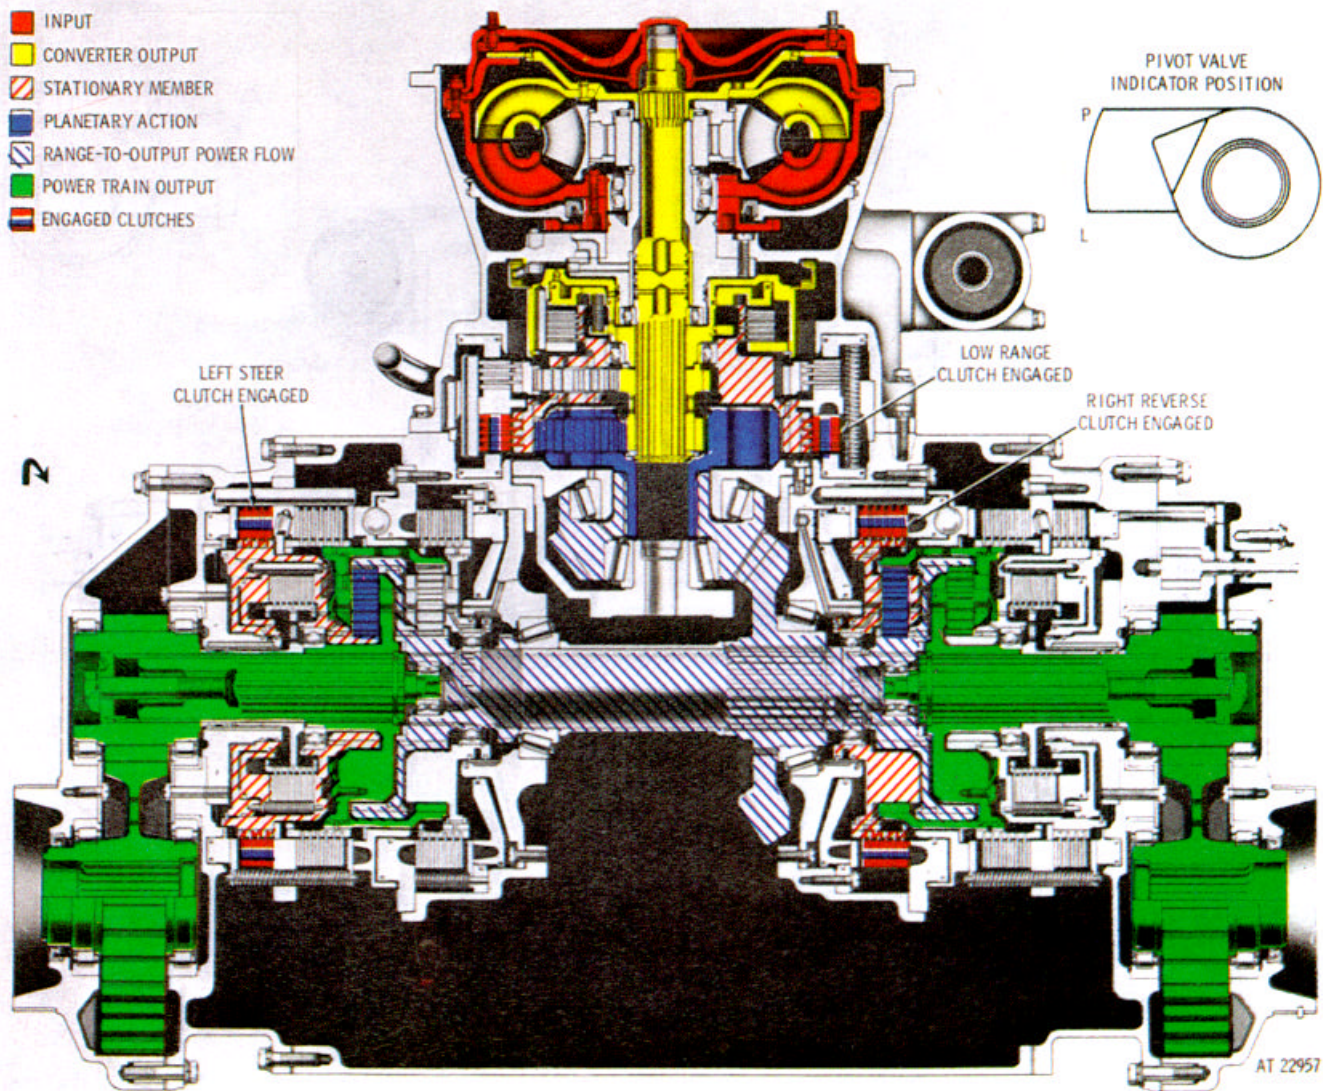

Figure 2-31. Reverse-1 gear, pivot left steer operation-torque path
(1) In fourth gear, even though the steer valve is set for pivot steer, the steer system automatically reverts to normal geared-steer operation. Thus, fourth gear, pivot steer is identical with fourth gear, normal steer. The power flow in the range and right output sections is the same as that described in paragraph 2-50d. However, in the left output section, the steer clutch is engaged. The power flow in the left output section is therefore, the same as that described in paragraph 2-50a (3).
(2) In fourth gear, pivot left steer, the left output rotates slower than the right output, causing the vehicle to steer toward the left. Lesser application of steer will lengthen the radius in which the vehicle travels.
(3) In fourth gear, pivot right steer, the transmission operates in the same manner as left steer except that the actions described in (1) and (2), above, take place in opposite sides of the transmission. (The output clutch drives the left output, while the steer clutch drives the right output. Thus, the right output is slower, and the vehicle steers toward the right.)
e. Reverse-1 Gear, Pivot Left Steer (fig. 2-31).